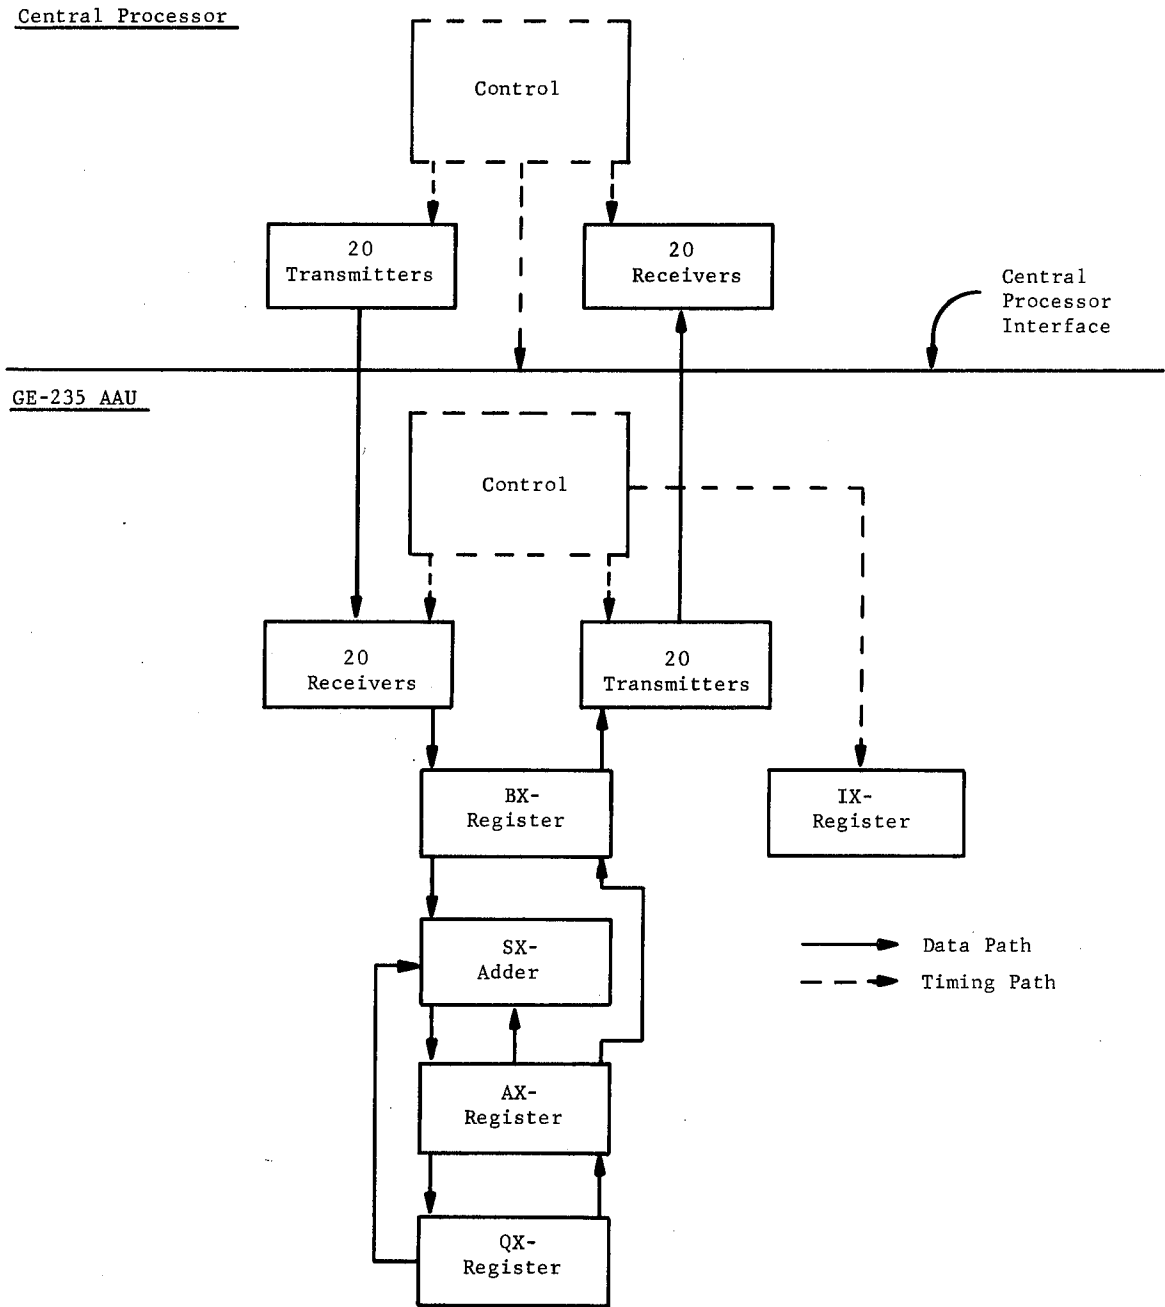

Figure 2. Major Registers And Functional Logic Diagram
The AX-, BX-, QX-, and IX-Registers and the adder (SX) perform functions similar to their counterpart registers (A, B, Q, and I) in the GE-235 central processor. Figure 2 is a block diagram showing the data and control timing paths for the functional logic and the major registers of the GE-235 AAU.